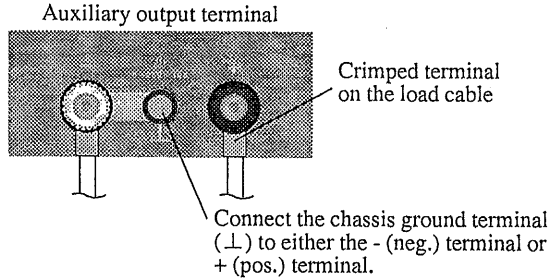

Fig. 2-5 Connection to the auxiliary output terminals on the front panel
- ① Check that the POWER switch is turned off.
- ② Connect the load to the output terminals board on the rear panel or to the auxiliary output terminals on the front panel. See Figs. 2-5 and 2-6.